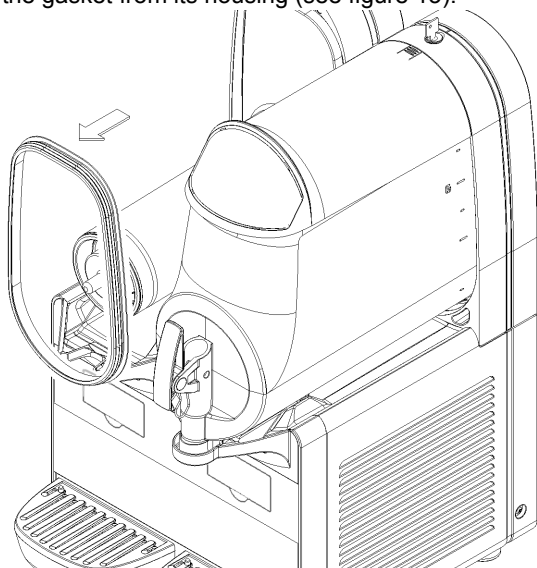

figure 13
- 4 Remove the gasket from its housing (see figure 13).